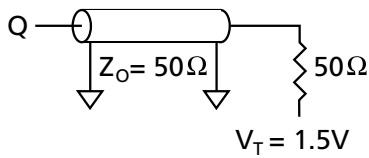
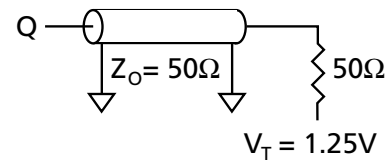

Figure 1
Figure 3
1. Test conditions as specified with the output loading shown in Figure 1 for 3.3V I/O (V_{DDQ} = +3.3V +0.3V/-0.165V) and Figure 3 for 2.5V I/O (V_{DDQ} = +2.5V +0.4V/-0.125V for 2.5V I/O) unless otherwise noted.
Output load	See Figures 1 and 2
Output load	See Figures 3 and 4